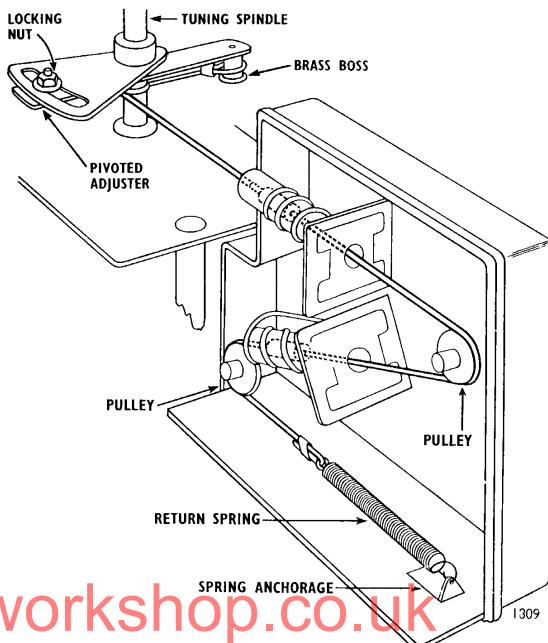

Fig.6—VHF Cord Drive
3. Thread assembly of tuning cores (fig. 6) through coil formers and hook the spring (fig. 6) to its anchorage.
4. Now take one turn in a clockwise direction around the tuning capacitor spindle and slip the loop in the cord over the brass boss (fig. 6).